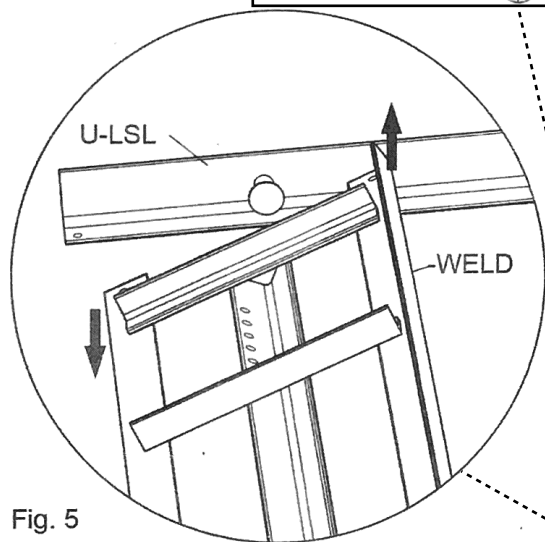

Fig. 5
11. WELDMENT: Using 1" bolts (UMB75) and nylon insert locknuts (UMNNYL), hand-tighten the provided weldment (WELD) to the side rails with the spring holes towards the head of the bed. Make sure the weldment straddles the side rails as shown in Fig. 5. The head end is below the side rails, and the foot end is above the side rails.